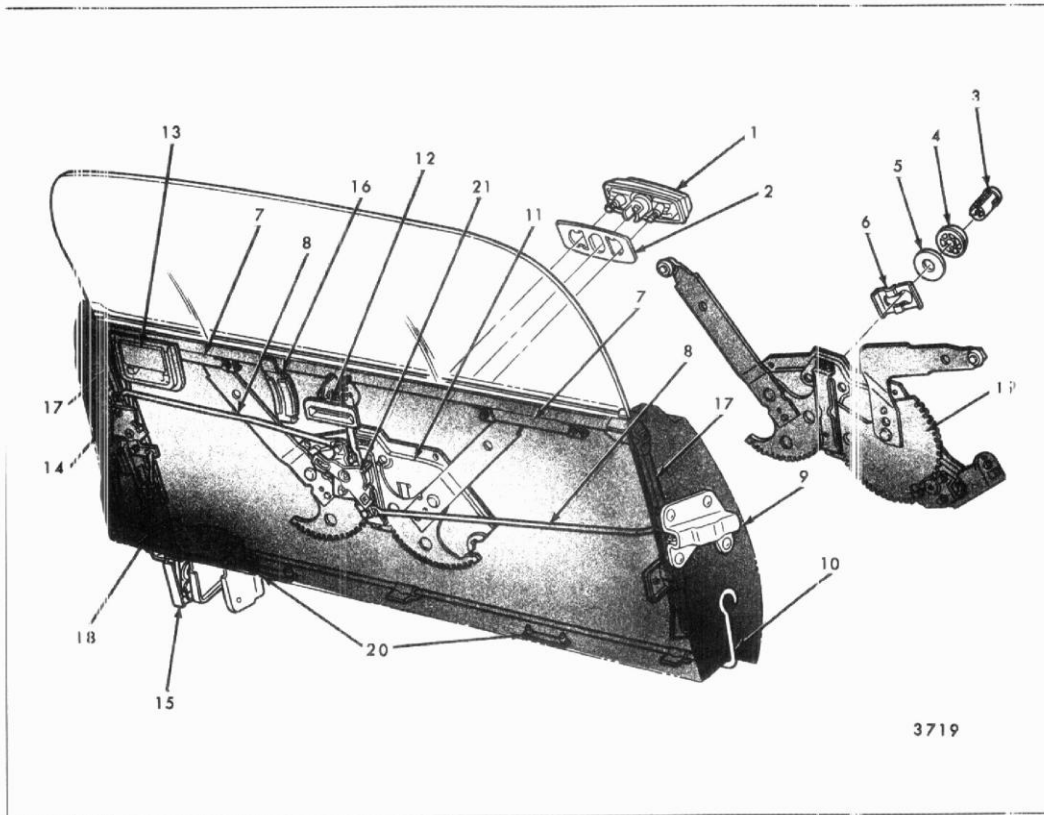

Fig. 9-1-Dual Acting Tail Gate Hardware (Typical)
Figure 9-1 identifies the component parts of a typical dual-acting tail gate and their relationship.
3. Remove bolts securing regulator to support and remove regulator, with motor attached, from tail gate (Refer to Fig. 9-1).